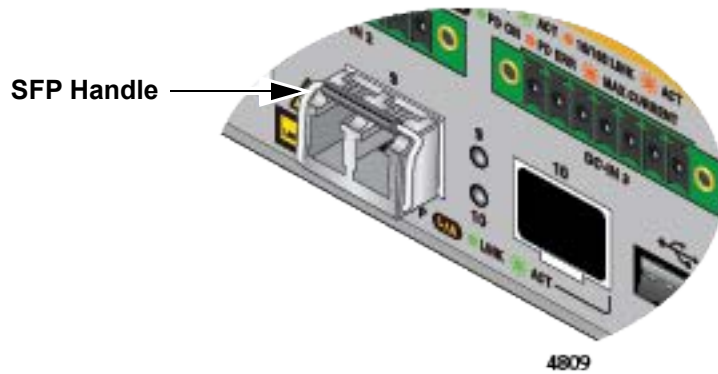

Figure 60. Positioning the SFP Handle in the Upright Position
5. Verify the position of the handle on the transceiver. The handle should be in the upright position, as shown in Figure 60.